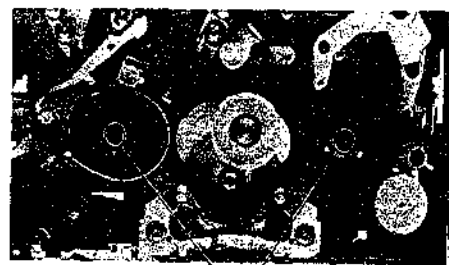

Fig. 27
- 1) ② stopper washer. (Fig. 27)